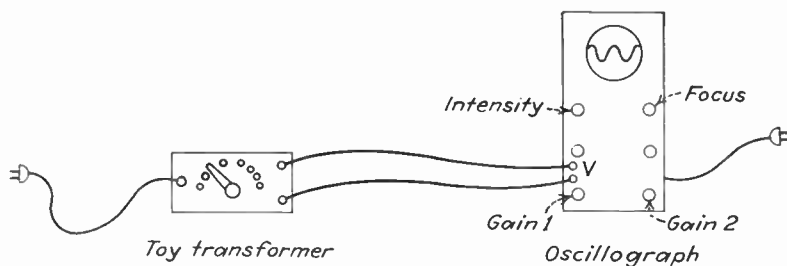

FIG. 18. A 60-cycle wave on the oscillograph.
Step 2. Connect wire from the bell or toy transformer to the vertical posts of the oscillograph (see Fig. 18).